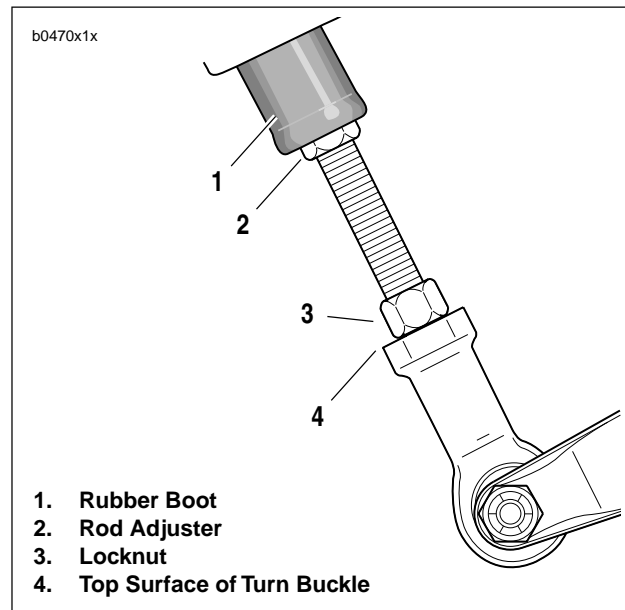
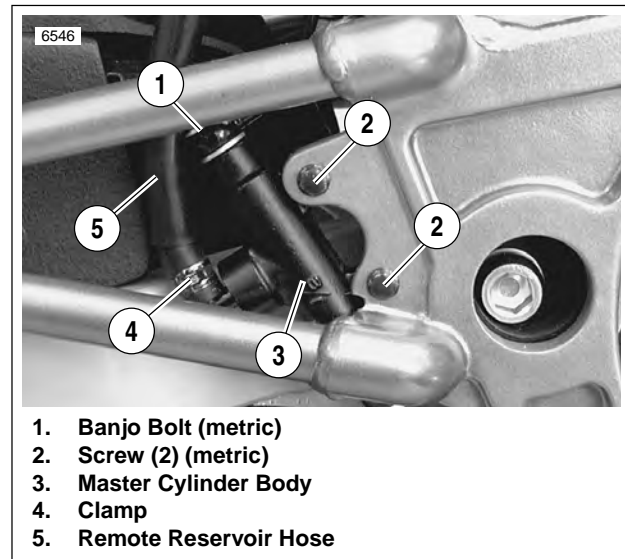

Figure 2-37. Brake Push Rod
Figure 2-38. Master Cylinder Mounting
3. See Figure 2-37. Disconnect push rod from brake pedal turn buckle (4).
- a. Spin locknut (3) away from top surface of turn buckle.
- b. Turn rod adjuster (2) to free rod from turn buckle (4).
4. See Figure 2-38. Remove two screws (2) (metric) to detach master cylinder (3) from frame.
2. See Figure 2-38. Attach master cylinder (3) to frame using two screws (2) (metric). Tighten to 8-10 **ft-lbs** (11-14 Nm).
4. See Figure 2-37. Install push rod.